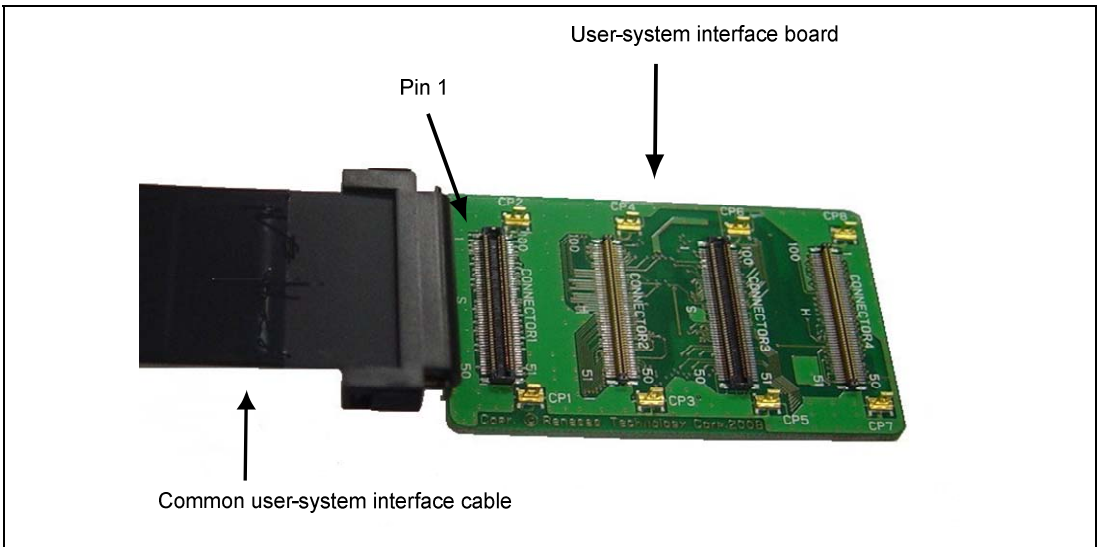

Figure 2.7 Connecting the User-System Interface Board and the Common User-System Interface Cable
4. Confirm the location of pin CONNECTOR1-1 on the user-system interface board before plugging in the common user-system interface cable as shown in figure 2.7. In the listed order, plug in the four connectors indicated by the following silk-screened labels on the user-system interface board: CONNECTOR1, CONNECTOR2, CONNECTOR3, and CONNECTOR4.